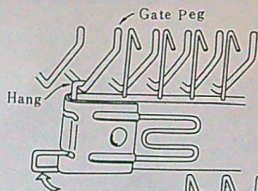

Fig. 9
- 3) Place hooks between pegs of needle bed as far as possible. (See Fig.9)